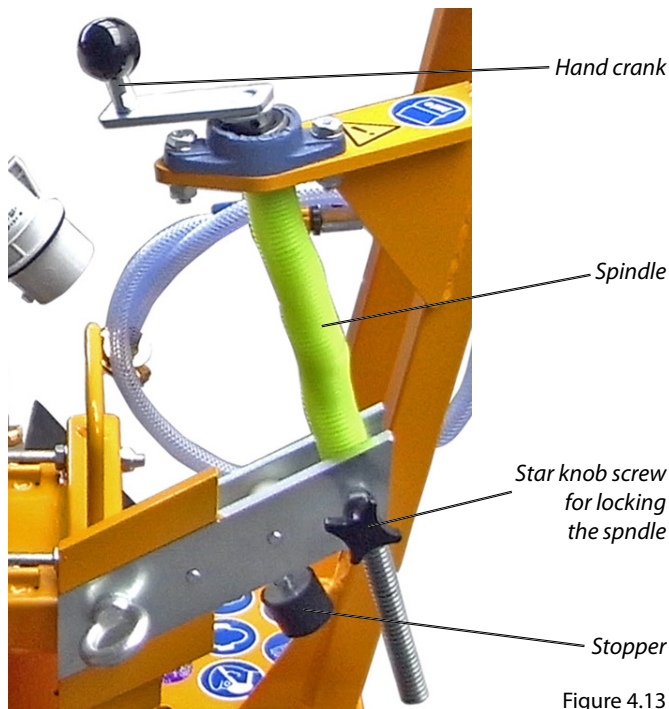

Figure 4.13
- After cleaning, provide the metallic sliding parts (spindle fig. 4.13) with a thin coating of grease (anti-rust protection) or corrosion protection oil! All other metal bearings and movable machine parts should never run dry, but slightly be greased with a thin film of multi-purpose grease and machine oil!